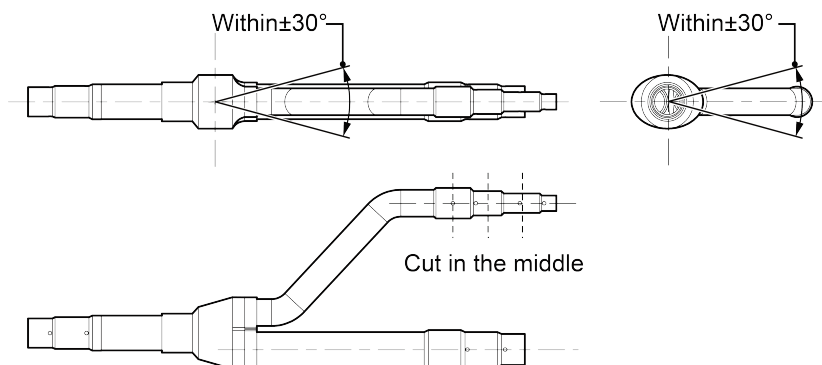

Fig.4.18
- (2) Y-type branch has several pipe sections with different dimension, which facilitates to match with various copper pipes. Use pipe cutter to cut in the middle of the pipe section that is of proper dimension and remove burrs as well. See Fig.4.18.
- (3) Y-type branch must be installed vertically or horizontally.